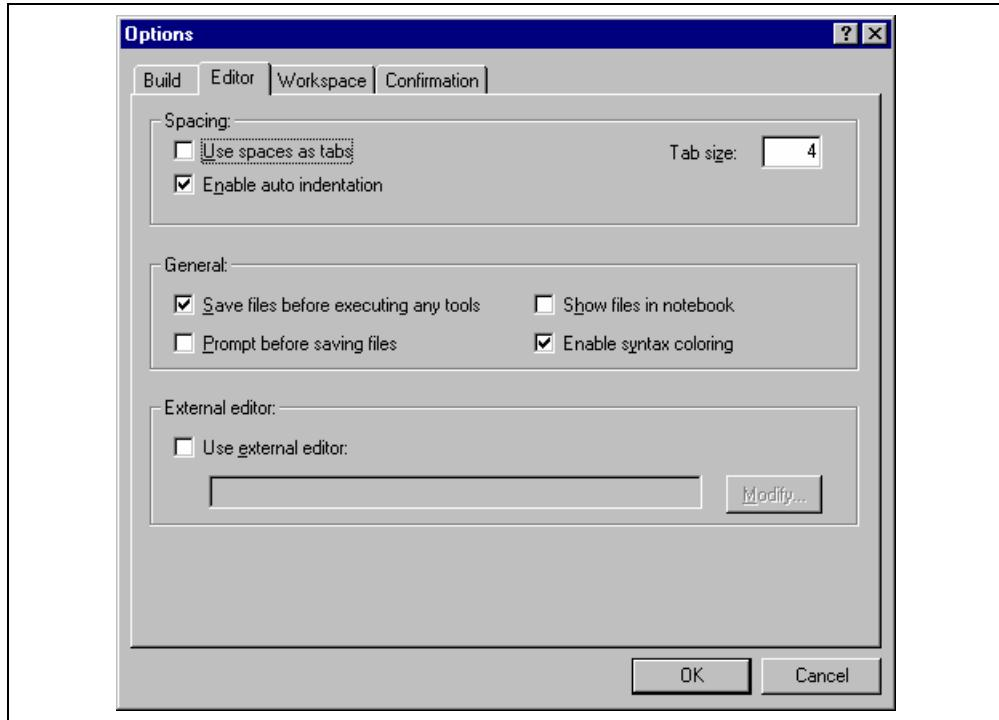

Figure 4.7: Options Dialog Editor Tab
1. Select [Tools->Options...]. The “Options” dialog will be displayed. Select the “Editor” tab (figure 4.7)).
1. Select **[Tools->Options...]**. The “Options” dialog will be displayed. Select the “Editor” tab (figure 4.7).
1. Select [Tools->Options...]. The “Options” dialog will be displayed. Select the “Editor” tab (figure 4.7).